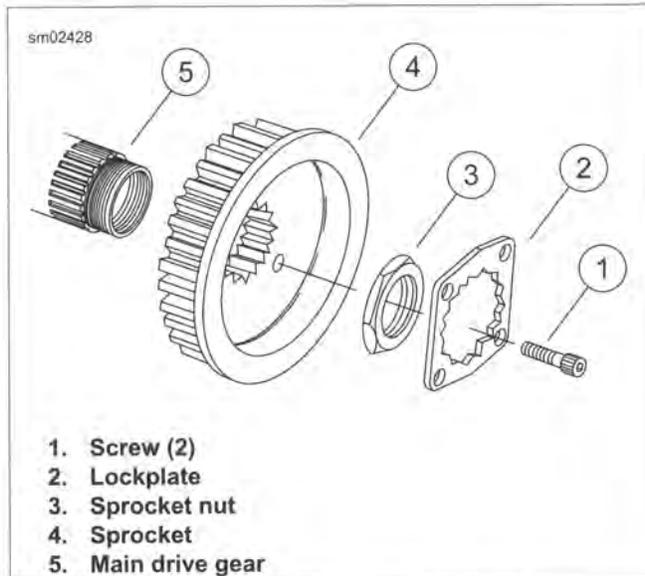

Figure 5-40. Transmission Sprocket
3. See Figure 5-40. Remove two screws (1) and lockplate (2).
- See Figure 5-40. Apply a thin film of clean engine oil on the inner face of the sprocket nut (3) and the outer face of the sprocket (4) where the two parts contact each other. Install the sprocket nut finger-tight.
- See Figure 5-40. Install two screws (1) to secure lockplate (2). Tighten to 90-120 in-lbs (10.2-13.6 Nm).